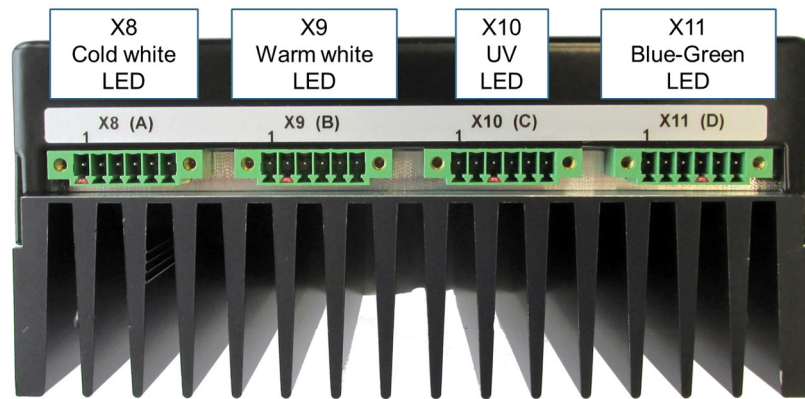

Figure 14: Communication ports on the XLC4
- Connect your Corona II **D50** illumination to **X8-X11** of the XLC4-LED controller as shown in Figure 14 above.